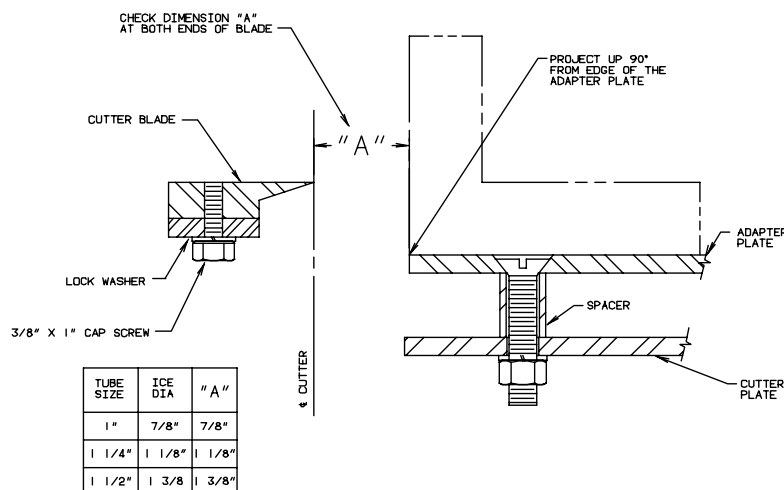

Figure 9-6
4. Refer to FIGURE 9-6; adjust each blade to dimension "A" and lock the blade in position by tightening the 3/8" cap screws. Note: Use a 90° square (as illustrated) to obtain the proper blade clearance required for satisfactory ice discharge. Dimension "A" is critical and should be measured at both ends of the blade. Note: 3/8" x 1" cap screw must be flush with cutter blade.